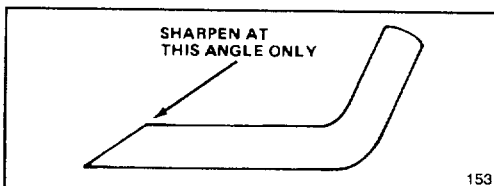

Figure 18
7. SHARPENING BLADE—Using a file, sharpen top side of blade and maintain original cutting angle (Fig. 18). The blade will remain balanced if same amount of material is removed from both cutting edges.